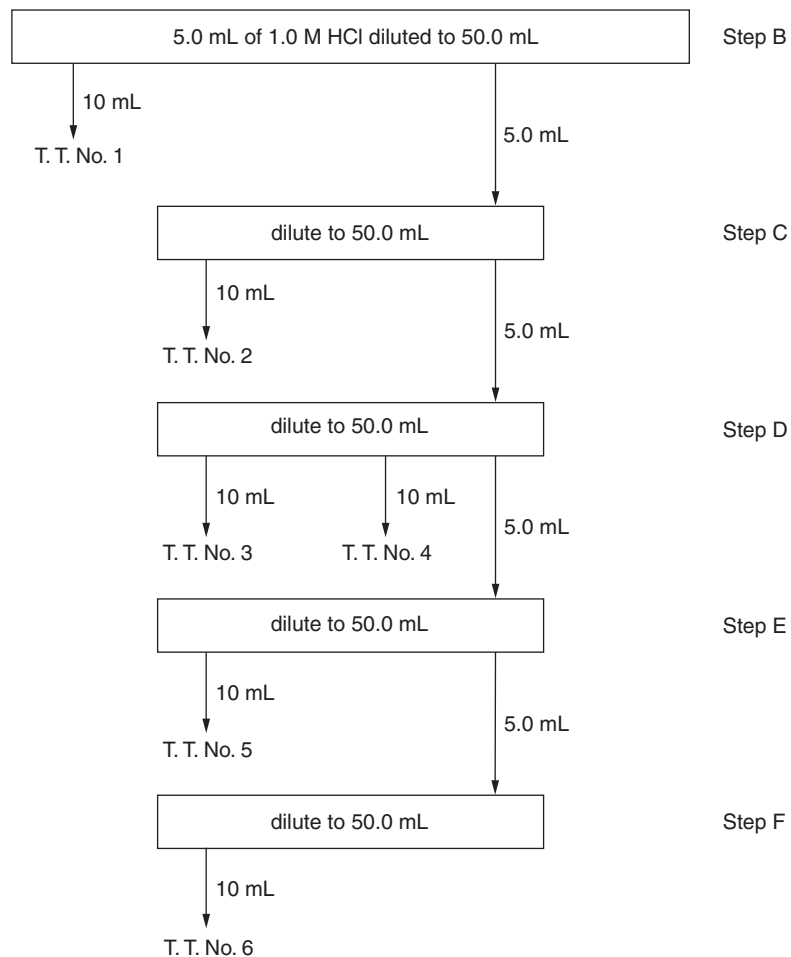

Figure 25.2
- A. While the deionized water is being prepared, wash and label six test tubes having a capacity of greater than 10 milliliters. Label them 1 to 6. When the deionized water is at room temperature, prepare a set of solutions as described in Steps B to F. Figure 25.2 is a schematic diagram of the dilution procedure.